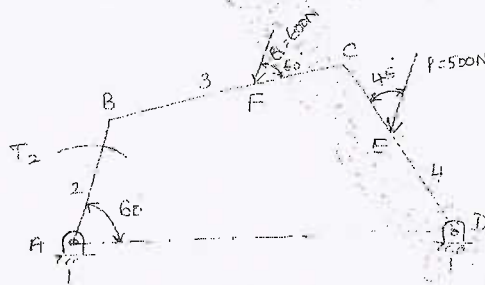

Fig. Q1 (b)
b. In the following Fig. Q1 (b) a 4-bar mechanism is shown. Calculate the required value of  $T_2$  and various forces on links for the equilibrium of the system. (16 Marks)